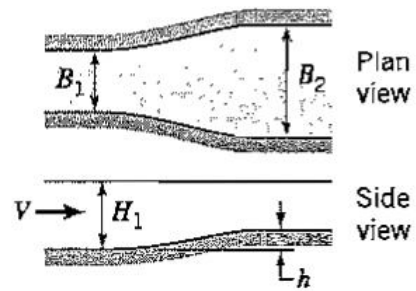

Figure P10.17
10.17 A smooth transition section connects two rectangular channels, as shown in Figure P10.17. The channel width increases from B_1 to B_2 and the water surface elevation is the same in each channel. If the upstream depth of flow is H_1 , determine h , the amount the channel bed needs to be raised across the transition section to maintain the same surface elevation.